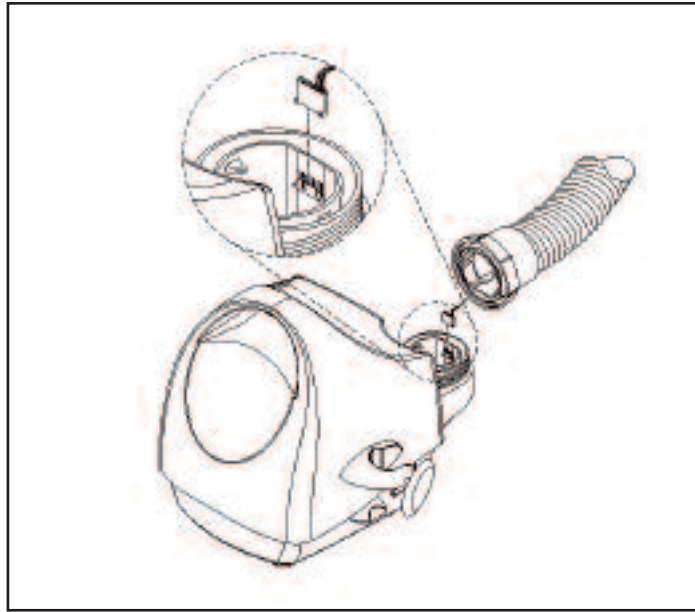

Figure 3. Hose replacement
5. Using the needle-nose pliers, carefully detach the cable connector from the header plug located inside the hose connector. See Figure 3.
2. Insert a slotted screwdriver into the slot on the grommet and push grommet securely into place in a horizontal position. See Figure 3 for correct orientation.